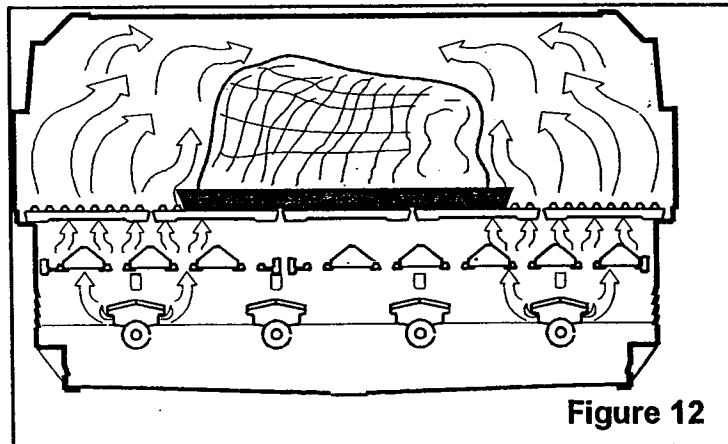

Figure 12
- Place the Porcelain cast iron cooking surfaces in position (**Figure 12**).